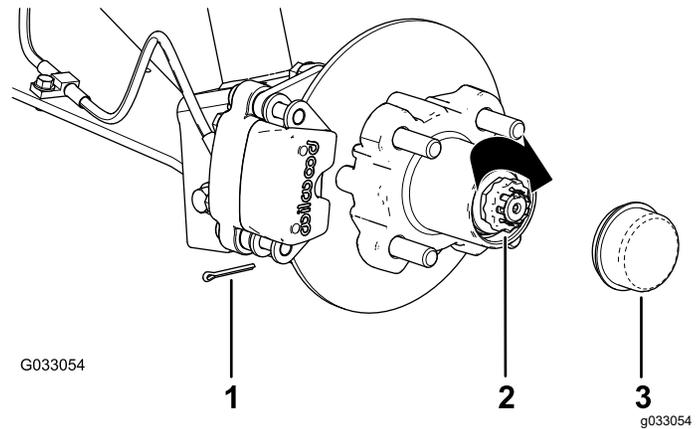

Figure 31
8. Install the retainer over the nut and check the alignment of the slot in the retainer and the hole in the spindle for the cotter pin (Figure 31).
9. Install the cotter pin and bend each leg around the retainer (Figure 31).
10. Install the dust cap onto the hub (Figure 31).